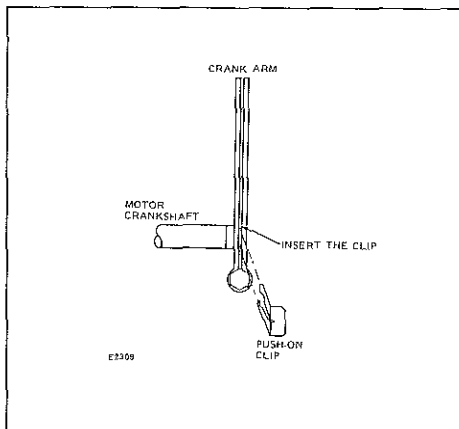

Fig. 2—Insertion of clip through slot in crank arm.
2. Insert the clip between the two sides of the crank arm (see Fig. 2).